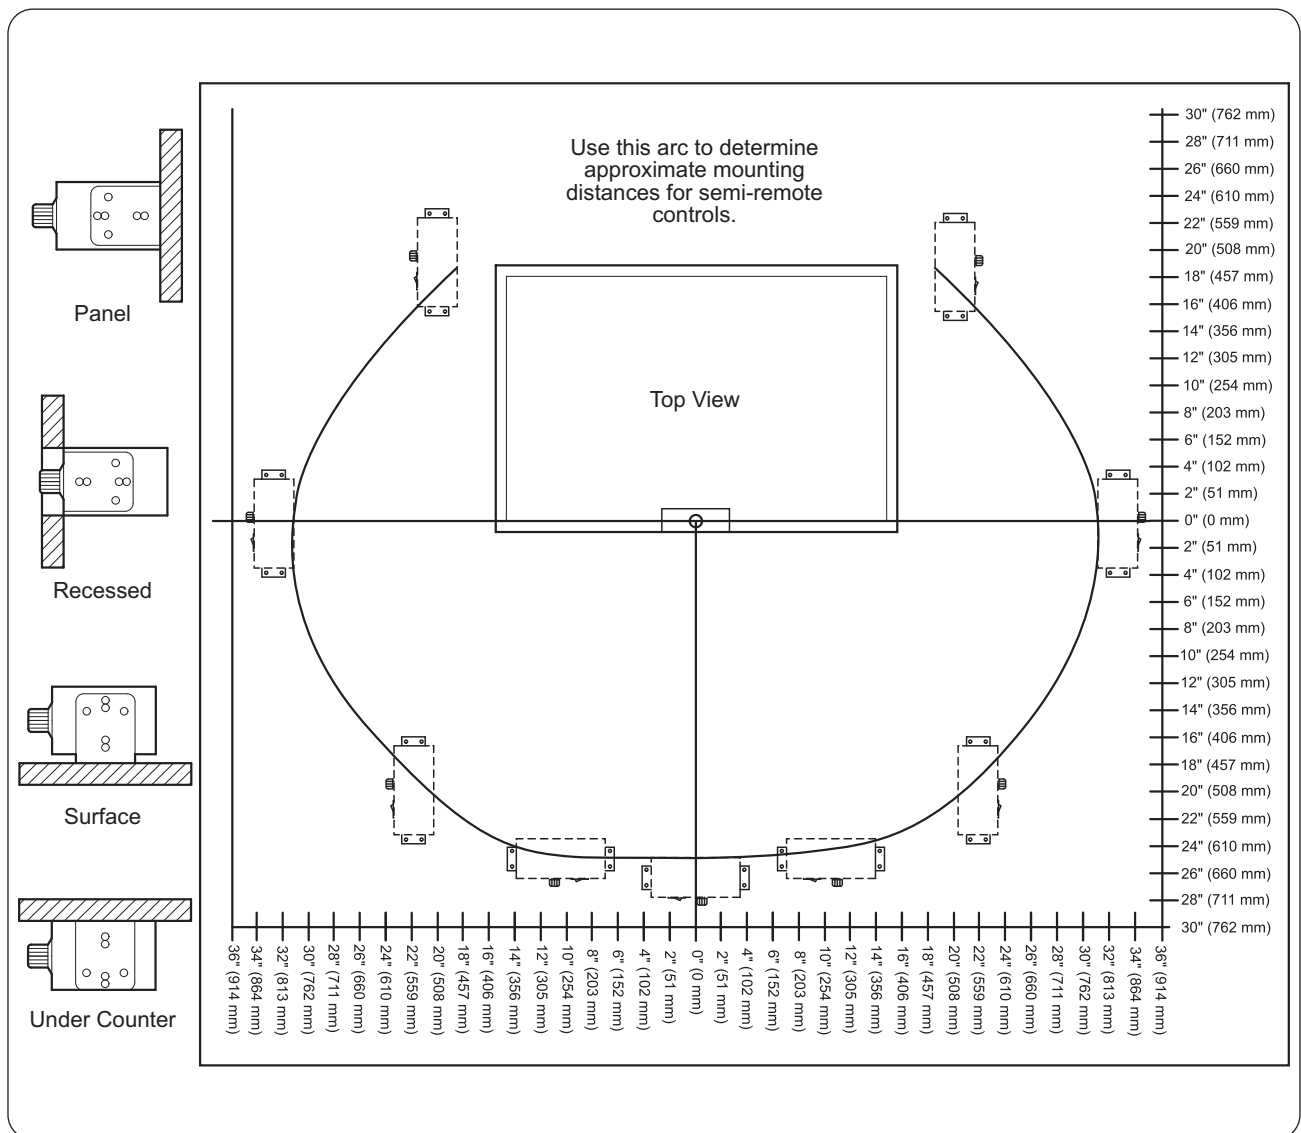

Figure 10. Maximum Remote Mounting Distance for GRSSB Series Control Box
- Locate the remote control box assembly in an area that is convenient for operation. If necessary, remove the end brackets from the control box, rotate, and reposition them. The control box will require a hole mounting pattern of 7-5/8 x 1-1/4 (194 mm x 32 mm). See Figure 10 for mounting distances.
The remote mounted control panel should be installed outside of the heat zone. Locating the control panel inside the heat zone will cause the control(s) to overheat, malfunction, and fail. See Figure 10 for maximum mounting distances.